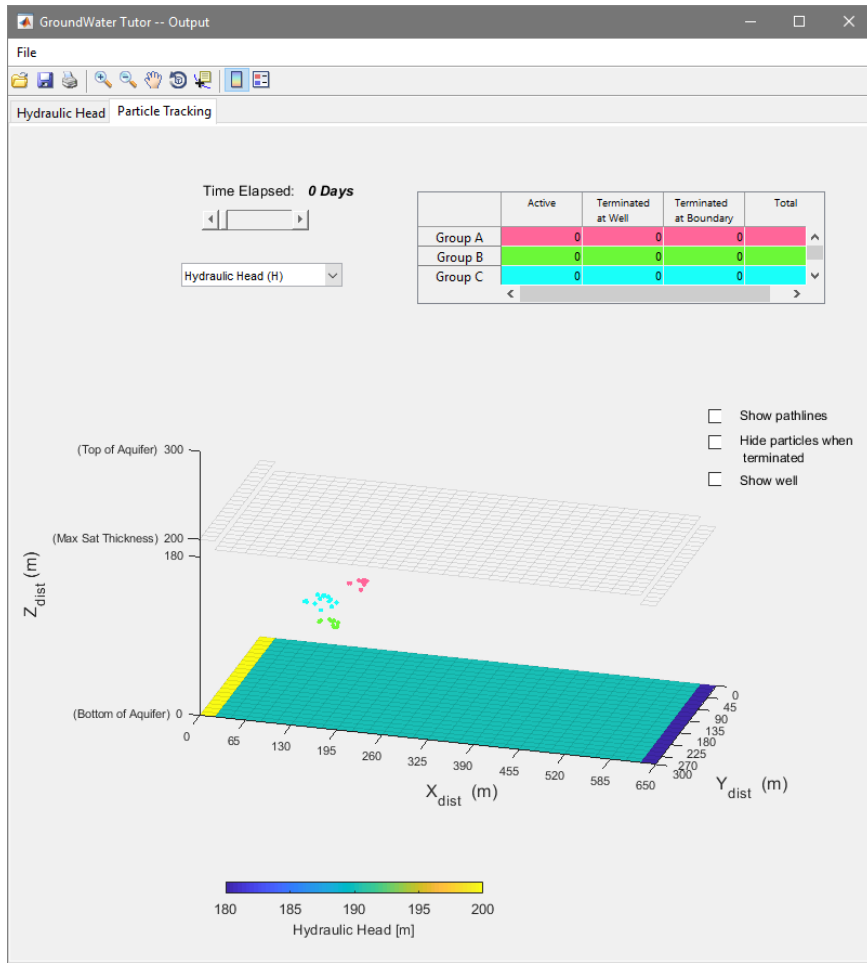

Figure 8. Particle Tracking tab in the GroundWaterTutor output window.
- **Particle Tracking** - See **Figure 8**. Plots the trajectories of the tracer particles throughout time. Thirty tracer particles (in three groups, 10, 10 and 15) are released from fixed locations on the eastern side of the model domain. The initial location of the particles varies randomly around a fixed centroid point for each location, which does not vary between simulations. This results in three small initial clusters of particles. The spatial distribution of hydraulic heads or hydraulic conductivities can be plotted here as well. As the simulation progresses, the chart in the top corner of this tab indicates the status of tracer particles (i.e., active, terminated at well/sink, or terminated at boundary).